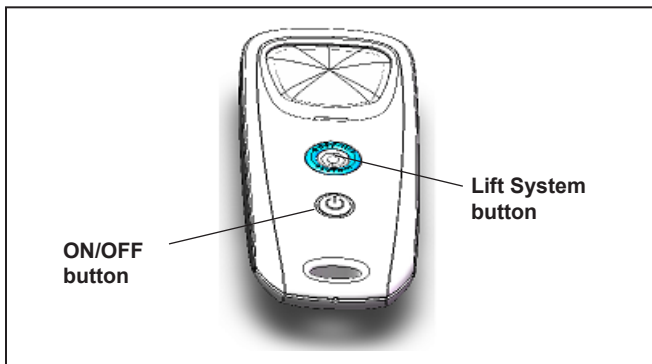

Figure 20. 3510 WD Remote Control
Press  (see Figure 20) and hold for 3 seconds.
- To remove the cleaner from the pool using the remote control, press  (see Figure 20).